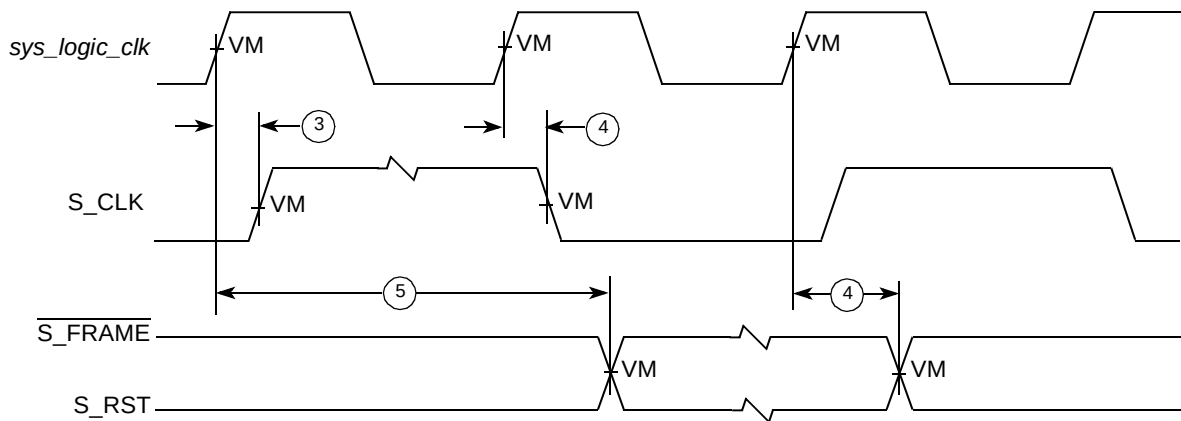
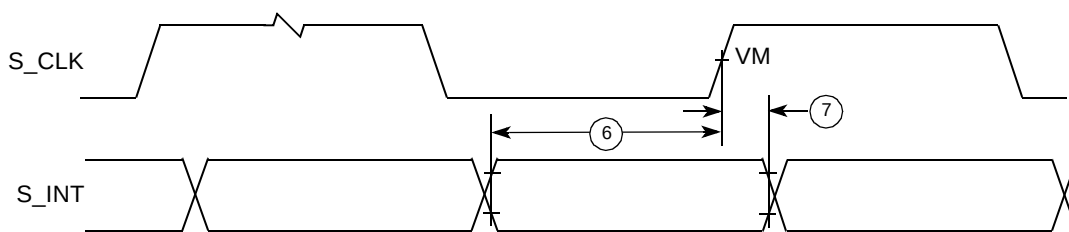

Figure 18. PIC Serial Interrupt Mode Output Timing Diagram
Figure 19. PIC Serial Interrupt Mode Input Timing Diagram
2. S_RST, S_FRAME, and S_INT shown in Figure 18 and Figure 19, depict timing relationships to sys_logic_clk and S_CLK and do not describe functional relationships between S_RST, S_FRAME, and S_INT. The *MPC8245 Integrated Processor Reference Manual* describes the functional relationships between these signals.